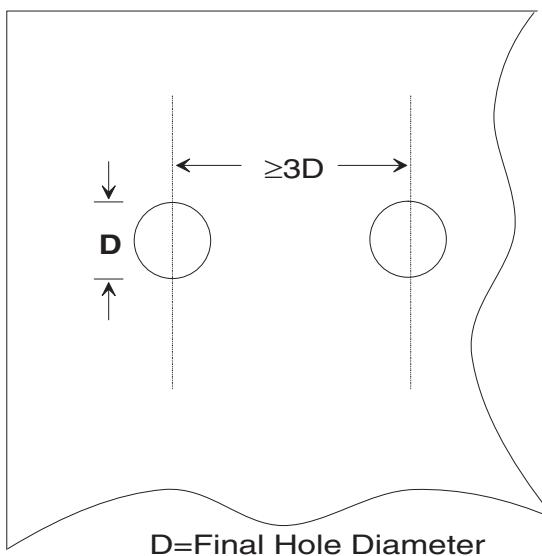

Figure 2-05 — Hole Spacing Requirements
- 2.17 Hole Spacing Requirement - Hole spacing may be determined by measuring the distance between the centerlines of adjacent holes. Hole spacing less than 3 diameters, should be examined, considering material movement, prior to coldworking. See paragraph 2.15, for the definition of Satellite Holes. Ref. Fig. 2-05.